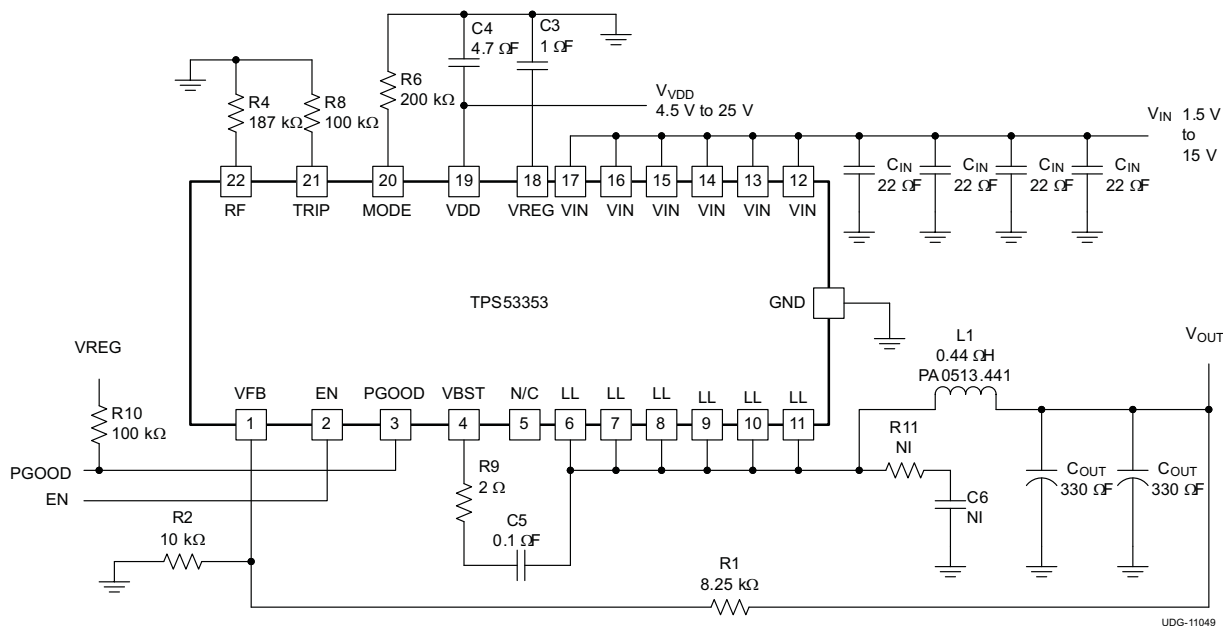

Figure 1. Typical Application Circuit Diagram
(1) Not production tested. Test condition is  $V_{IN} = 12\text{ V}$ ,  $V_{OUT} = 1.1\text{ V}$ ,  $I_{OUT} = 10\text{ A}$  using application circuit shown in Figure 1.
(2) Ensured by design. Not production tested.